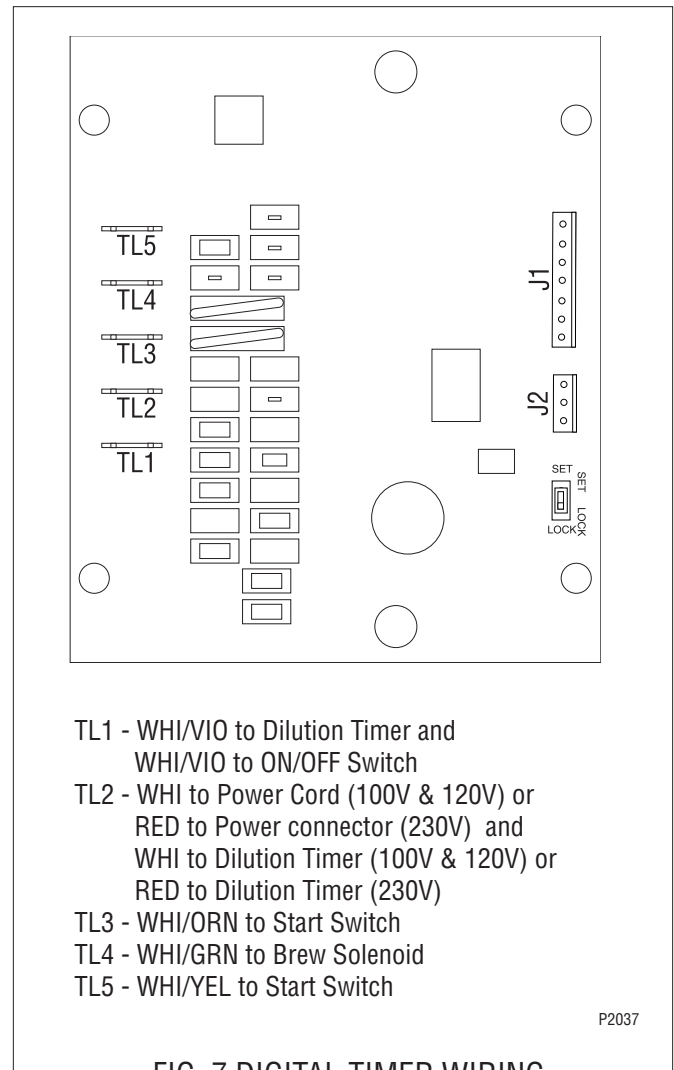

FIG. 7 DIGITAL TIMER WIRING
4. Attach all wires to the replacement timer board prior to installation to the component mounting bracket. Refer to FIG. 7 when reconnecting the wires.